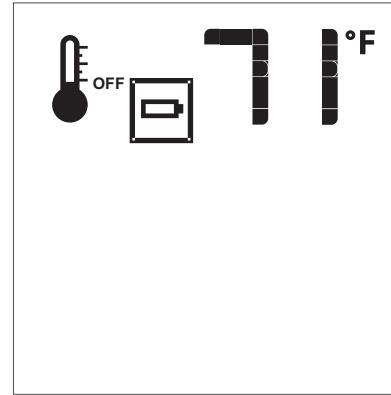

Figure 93
- When the transmitter batteries are low, an icon will appear on the LCD display of the transmitter. **See Figure 93** before all battery power is lost. When the batteries are replaced this icon will disappear.